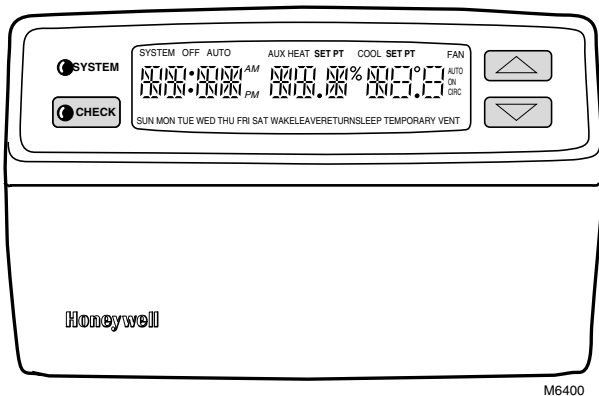

Fig. 31. All segments on display.
1. Press and hold CHECK key until all segments of the display are lighted. See Fig. 31.